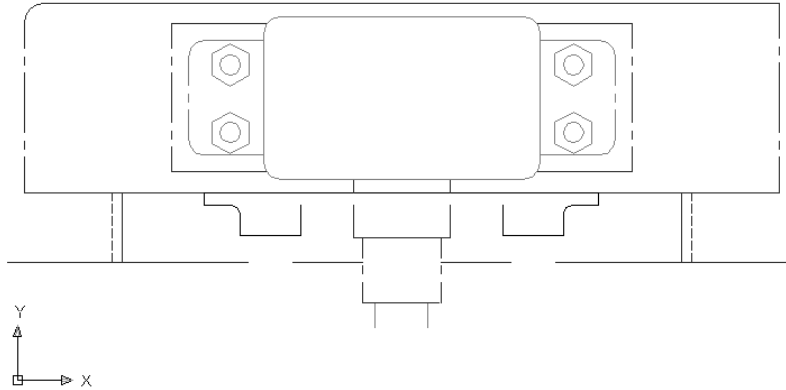

Figure 10-34: The filleted drawing.
8. Save your drawing. It should look like Figure 10-34.